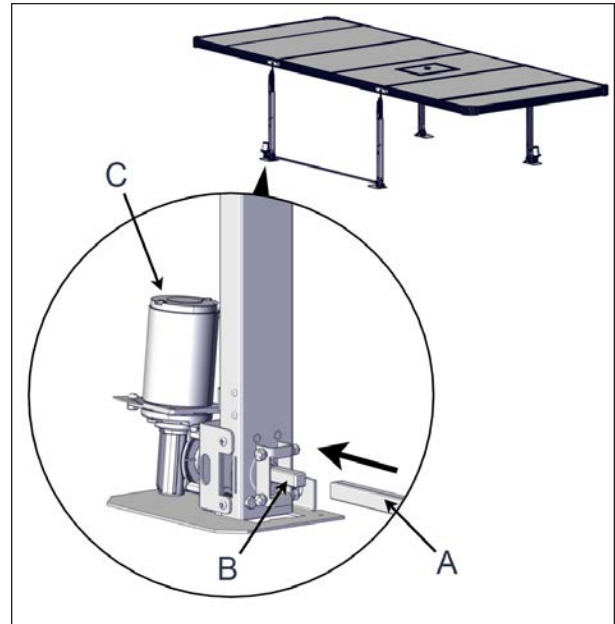

FIGURE 68: DRIVE SHAFT INSTALLATION ON THE MOTOR SIDE
- Slide the drive shaft over the square shaft of one motor-side jack, see Figure 68.